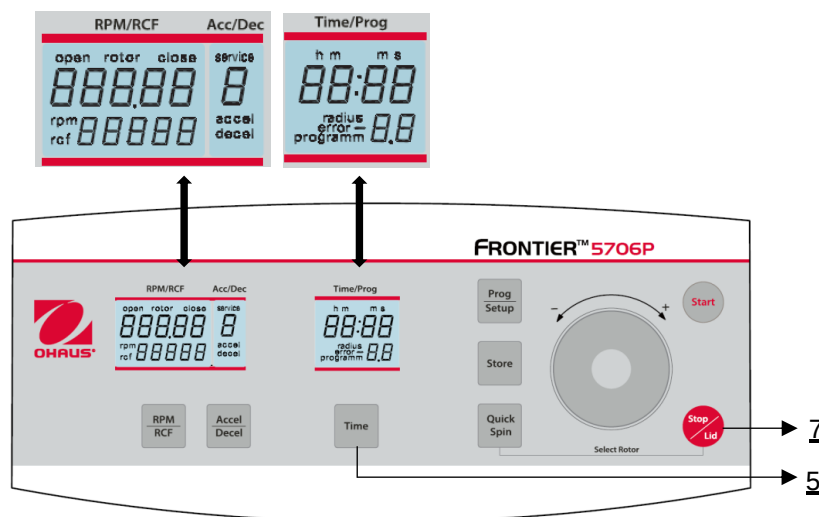

Figure 28
Open the centrifuge lid and shut off the main switch. Now switch on again the main switch. For approximately 3 seconds “5706P” will be shown in the display as well as the current software version. Press during this time the keys **Time** (5) and **Stop/Lid** (7) simultaneously. As a result, a display test is executed for approx. 3 seconds. All indicators will appear at the same time (see Figure 28).